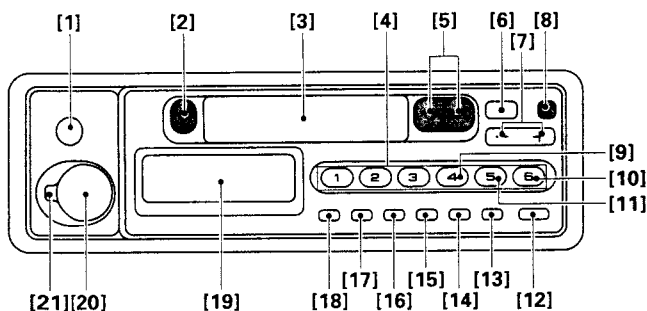

Fig. 1
Parts Identification (Fig. 1)
- Do not install the front panel while holding down buttons [2], [5] and [8] in Fig. 1. Doing so may destroy the buttons and the main unit.
(Fig. 1)